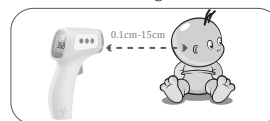

Figure 3: Align behind the ears to measurement
- If for some reason the low forehead temperature measurement can try to align behind the ears. See figure 3.